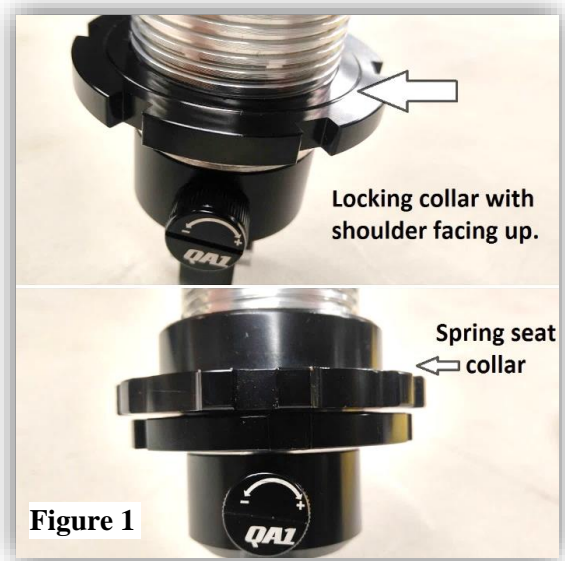

Figure 1
1. Screw the aluminum locking collar (shoulder up) and the spring seat adjuster nut (shoulder up) down to the last thread - NO FURTHER. **(Figure 1)** Now is a good time to lubricate the threads of the shock body with **Permatex® Anti-Seize Lubricant**.